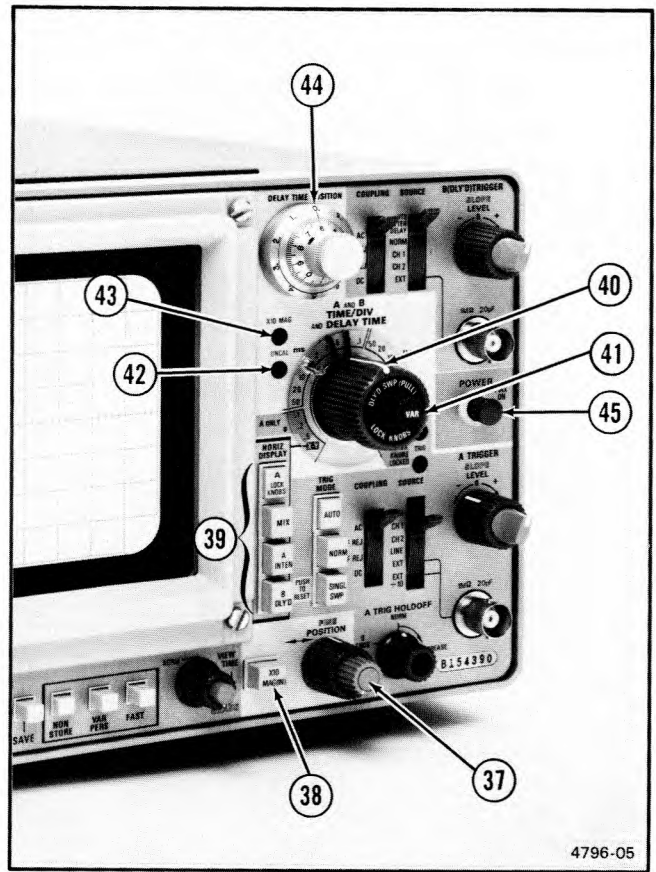

Fig. 2-5. Horizontal and Power sections.
See Fig. 2-5 for location of items 37 through 45.